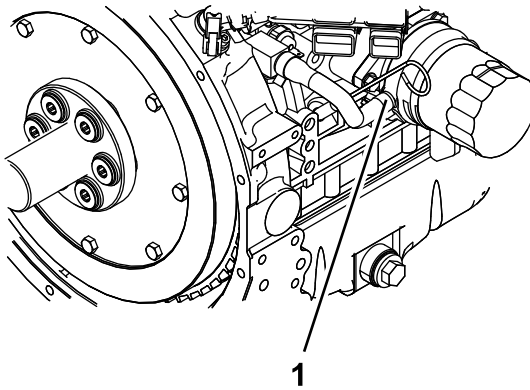

Figure 59
- Remove the coolant hose from the oil cooler and drain the coolant from the engine block (Figure 59).